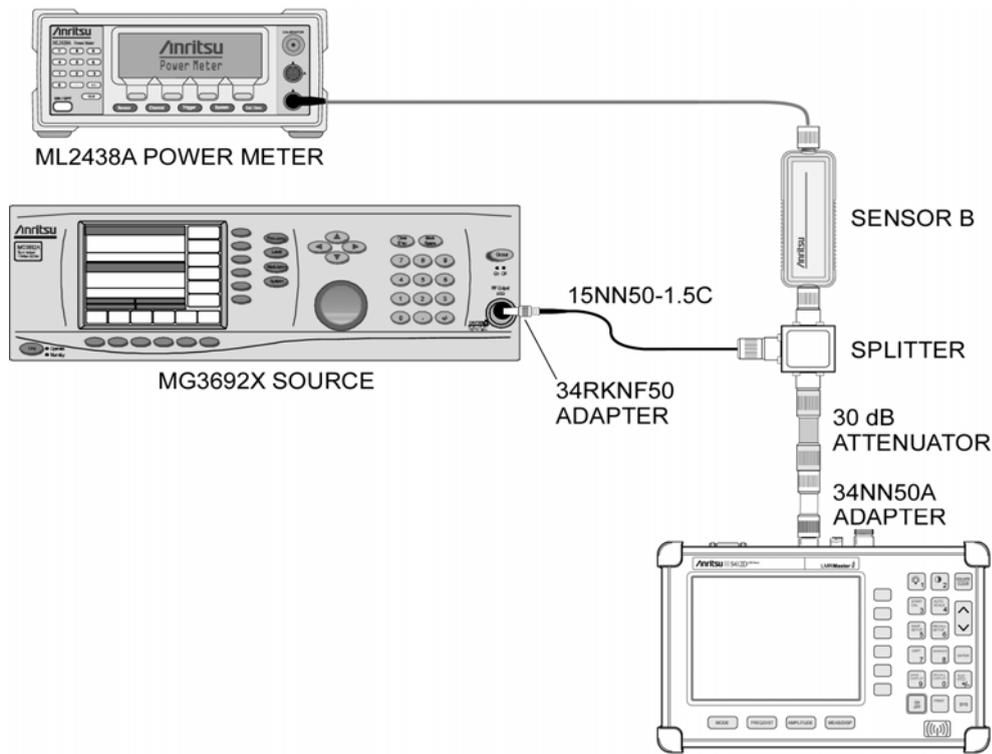

Figure 2-3. Level Accuracy Setup, 30 dB Attenuator
32. Using the power splitter, coaxial cable, adapters and 30 dB fixed attenuator, connect the LMR Master to the signal source and the power sensor as shown in Figure 2-3.